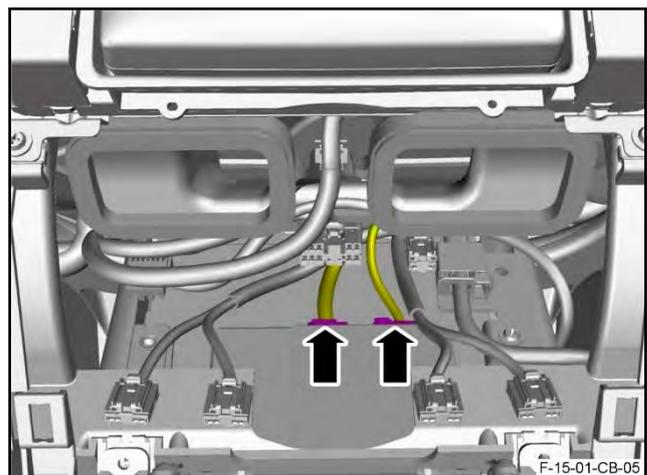

Figure 21
29. Disconnect the two electrical connectors from the Infotainment Control Module (ICM) (refer to Figure 21).